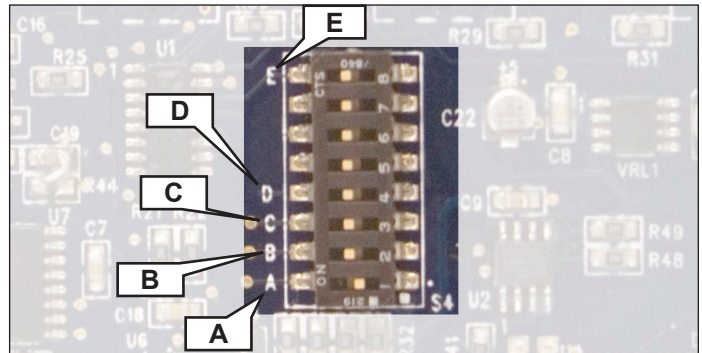

Figure 1. DIP Switch
1. Locate the 8-position DIP Switch on the new Control Board (Figure 1).
2. Configure the A, B, C, D, and E settings (Figure 1) of the DIP Switch for your specific toaster model by using Table 1 on Page 4.